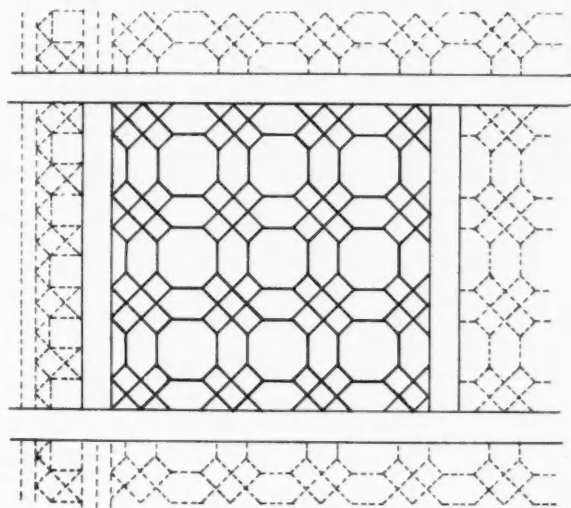
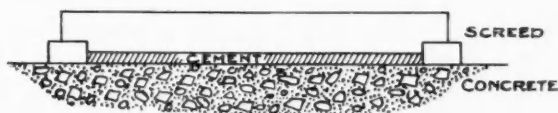

Fig. 4. Method of Laying Ornamental Tile Floor—Top View
Fig. 5. Preparing Foundation for Floor Tiles
Fig. 4 shows a still simpler way of fastening the glass to the door. The stop is rabbeted to fit over the glass and does not require the extra run of stops to hold the glass in place.
Fig. 5 illustrates three different ways of joining
**METHODS OF LAYING FLOOR TILE.** *Semi-Vitreous or Vitreous Tiles* for floors are first laid out to ascertain if they are all right, and compared with plan provided for laying floors. Strips are then set, beginning at one end of and in center of room, and level with intended finished floor line. Two sets of guide strips running parallel about 18 to 30 inches apart, should be set first (see Fig. 4). Mortar is then spread between them for six to ten feet at a time, and leveled with screed notched at each end to allow for thickness of tiles (see Fig. 5). Tiles are placed upon mortar, which must be stiff enough not to work up between the joints. Tiles are firmly pressed into mor-
Figures 4 and 5 are given to show one approved method of installing floor tile. In some cities different methods have been worked up by mechanics, which are just as satisfactory as those shown.
**FLOATING WALL TILE.** Mortar is spread between guide strips about five feet at a time, and leveled with screed notched at each end to allow for thickness of tile (see Fig. 5). Tiles are placed in position and tamped until firmly united to cement and level with strips. When space between strips is completed on one side of room, strips are removed and work continued in same manner until completed. When tiles are all set, joints must be carefully washed out and neatly filled with thinly mixed pure light gray Portland cement or Keene's cement. All cement remaining on tile must be carefully wiped off.